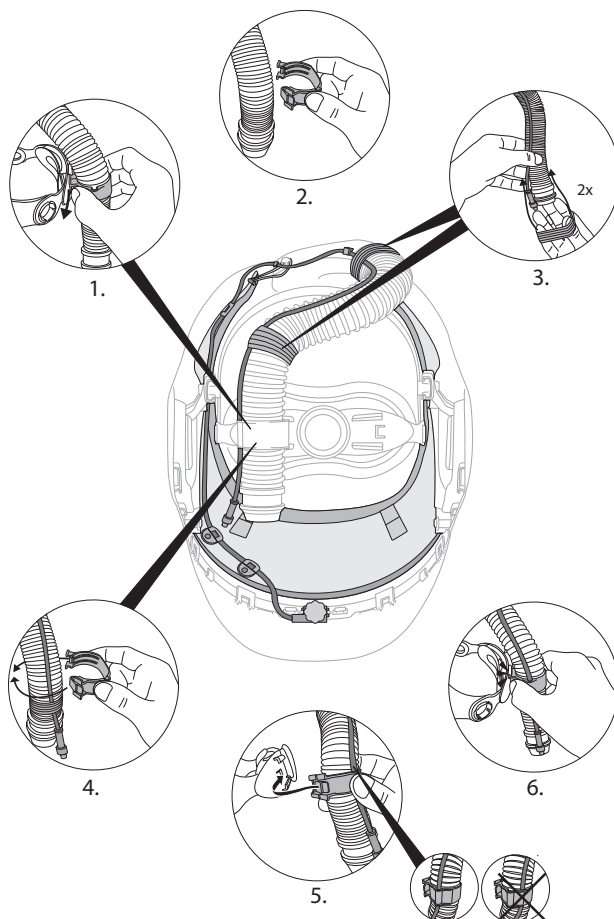

Fig. 31c
- iv. Remove the airduct tube holder (see “Connecting and Disconnecting Breathing Tubes”, Fig. 2a – 2c). Place elastic bands over the welding helmet airduct tube and cable near the welding helmet air deliver flange and near the airduct tube holder. Reattach the airduct tube holder (Fig. 31c).